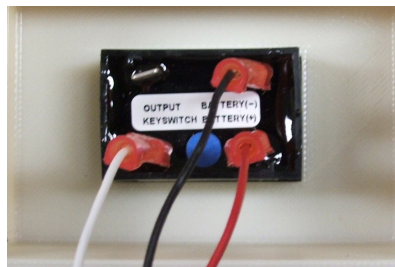

Figure 2
- 8) To store the charger cord, coil the charger cord around the two brackets, interlacing the cord plug within the coiled cord loops to secure it. Figure 2 shows the completed bracket assembly with the cord properly secured to the brackets.
- 9) Connect the black wire (-) to the BATTERY (-) terminal of the battery meter (see Figure 2).
- 10) Connect the white wire to the KEYSWITCH terminal of the battery meter (see Figure 2).
- 11) Connect the red wire (+) to the BATTERY (+) terminal of the battery meter (see Figure 2).